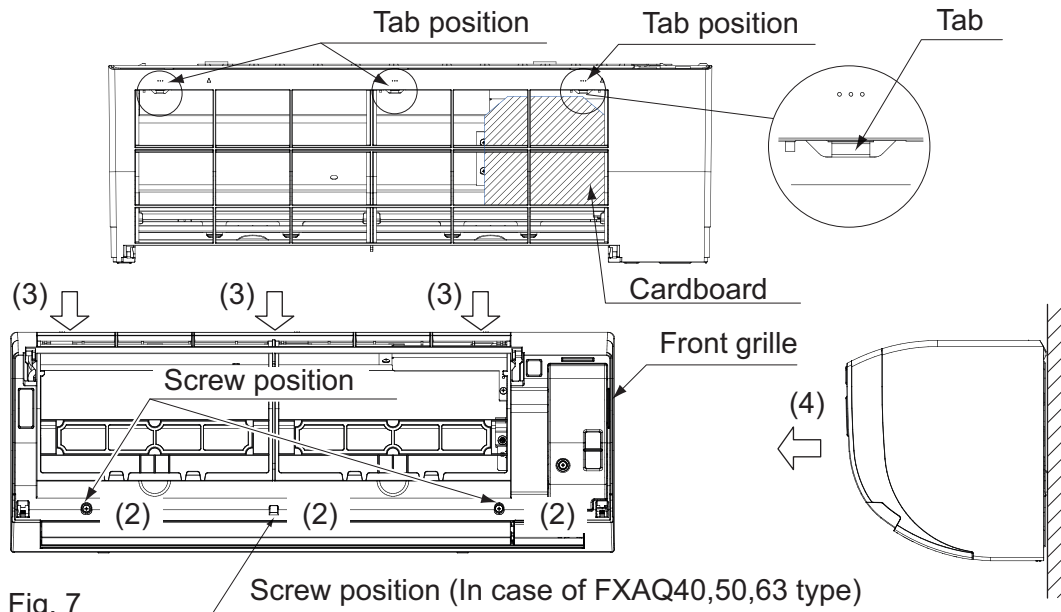
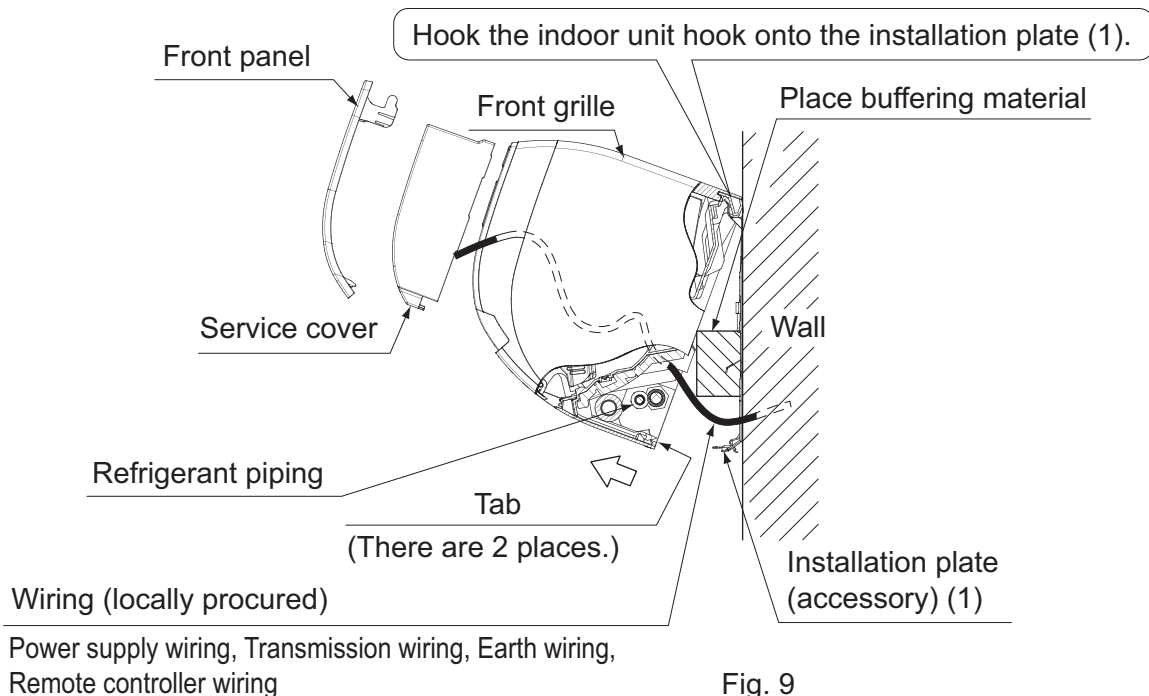

Fig. 7
Fig. 9
- Remove the front grille. (Refer to Fig. 7)
(6) Hook the indoor unit onto the installation plate. (Refer to Fig. 9)
(9) Push on both bottom edges of the indoor unit using both hands and hook the tab on the back of the indoor unit onto the installation plate (1). (Refer to Fig. 9)
- At this time remove the buffering material placed in step (6).